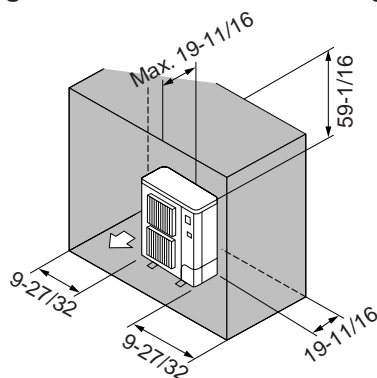

Fig. 2-7
- ⑥ Obstacles at rear, sides, and above only (Fig. 2-7)